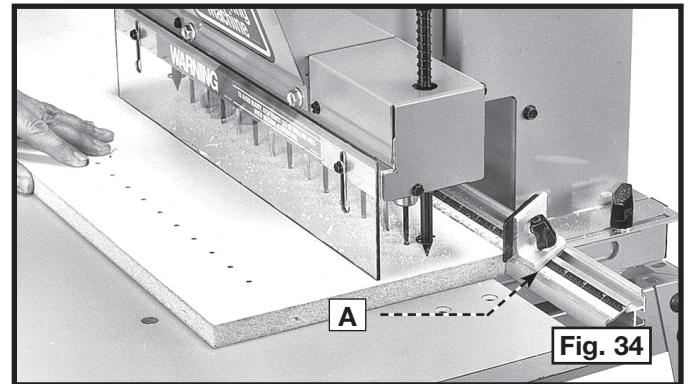

Fig. 34
1. A typical line-boring operation is shown in Fig. 34. Note that the right end of the workpiece is positioned against the fence stop (A) and 13 holes are being bored with a 32 mm center distance between each hole.